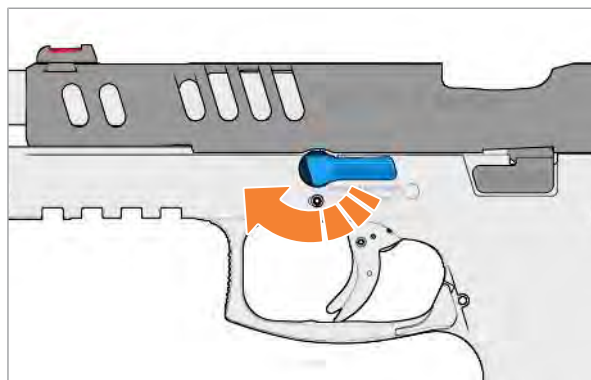

Fig. 57: Turning the disassembly lever
3. Turn disassembly lever clockwise as far as it will go (Fig. 57).